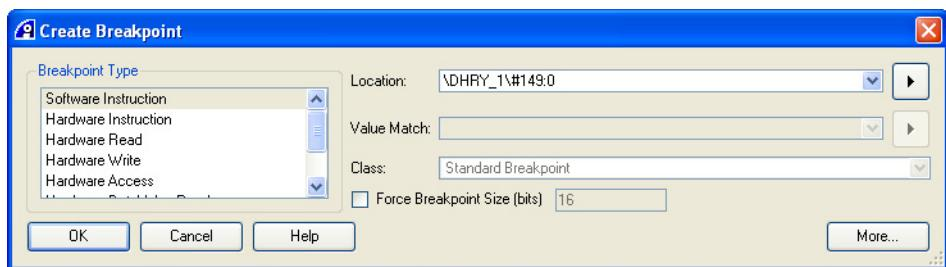

Figure 11-4 Create Breakpoint dialog box
3. Select **Create Breakpoint...** from the context menu to display the Create Breakpoint dialog box. Figure 11-4 shows an example. The chosen location is inserted in the Location field.